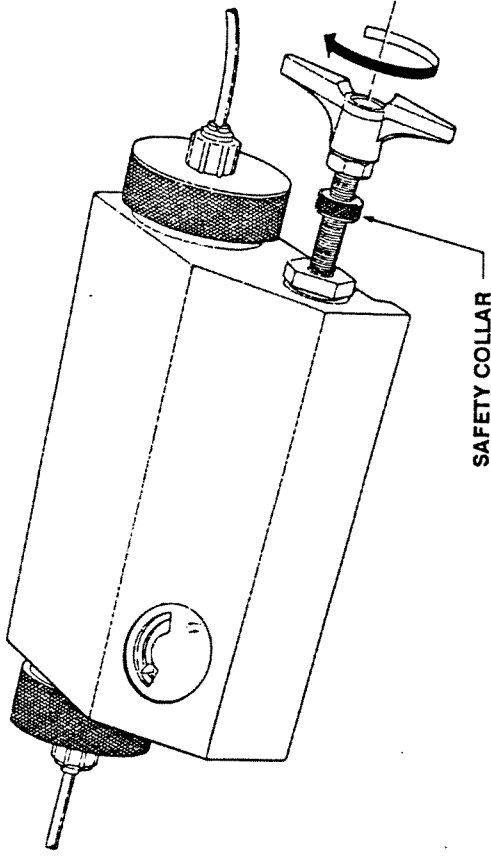

FIGURE 3-6 COMPRESSING THE CARTRIDGE
3. Turn the piston handle (Figure 3-6) until the pressure gauge indicates approximately 500 psi. If the piston bottoms before reaching the desired pressure, back the piston out to decompress the module, add fluid with the syringe, and recompress.
4. When the cartridge is pressurized, tighten the safety collar finger tight against the retaining nut (Figure 3-6).